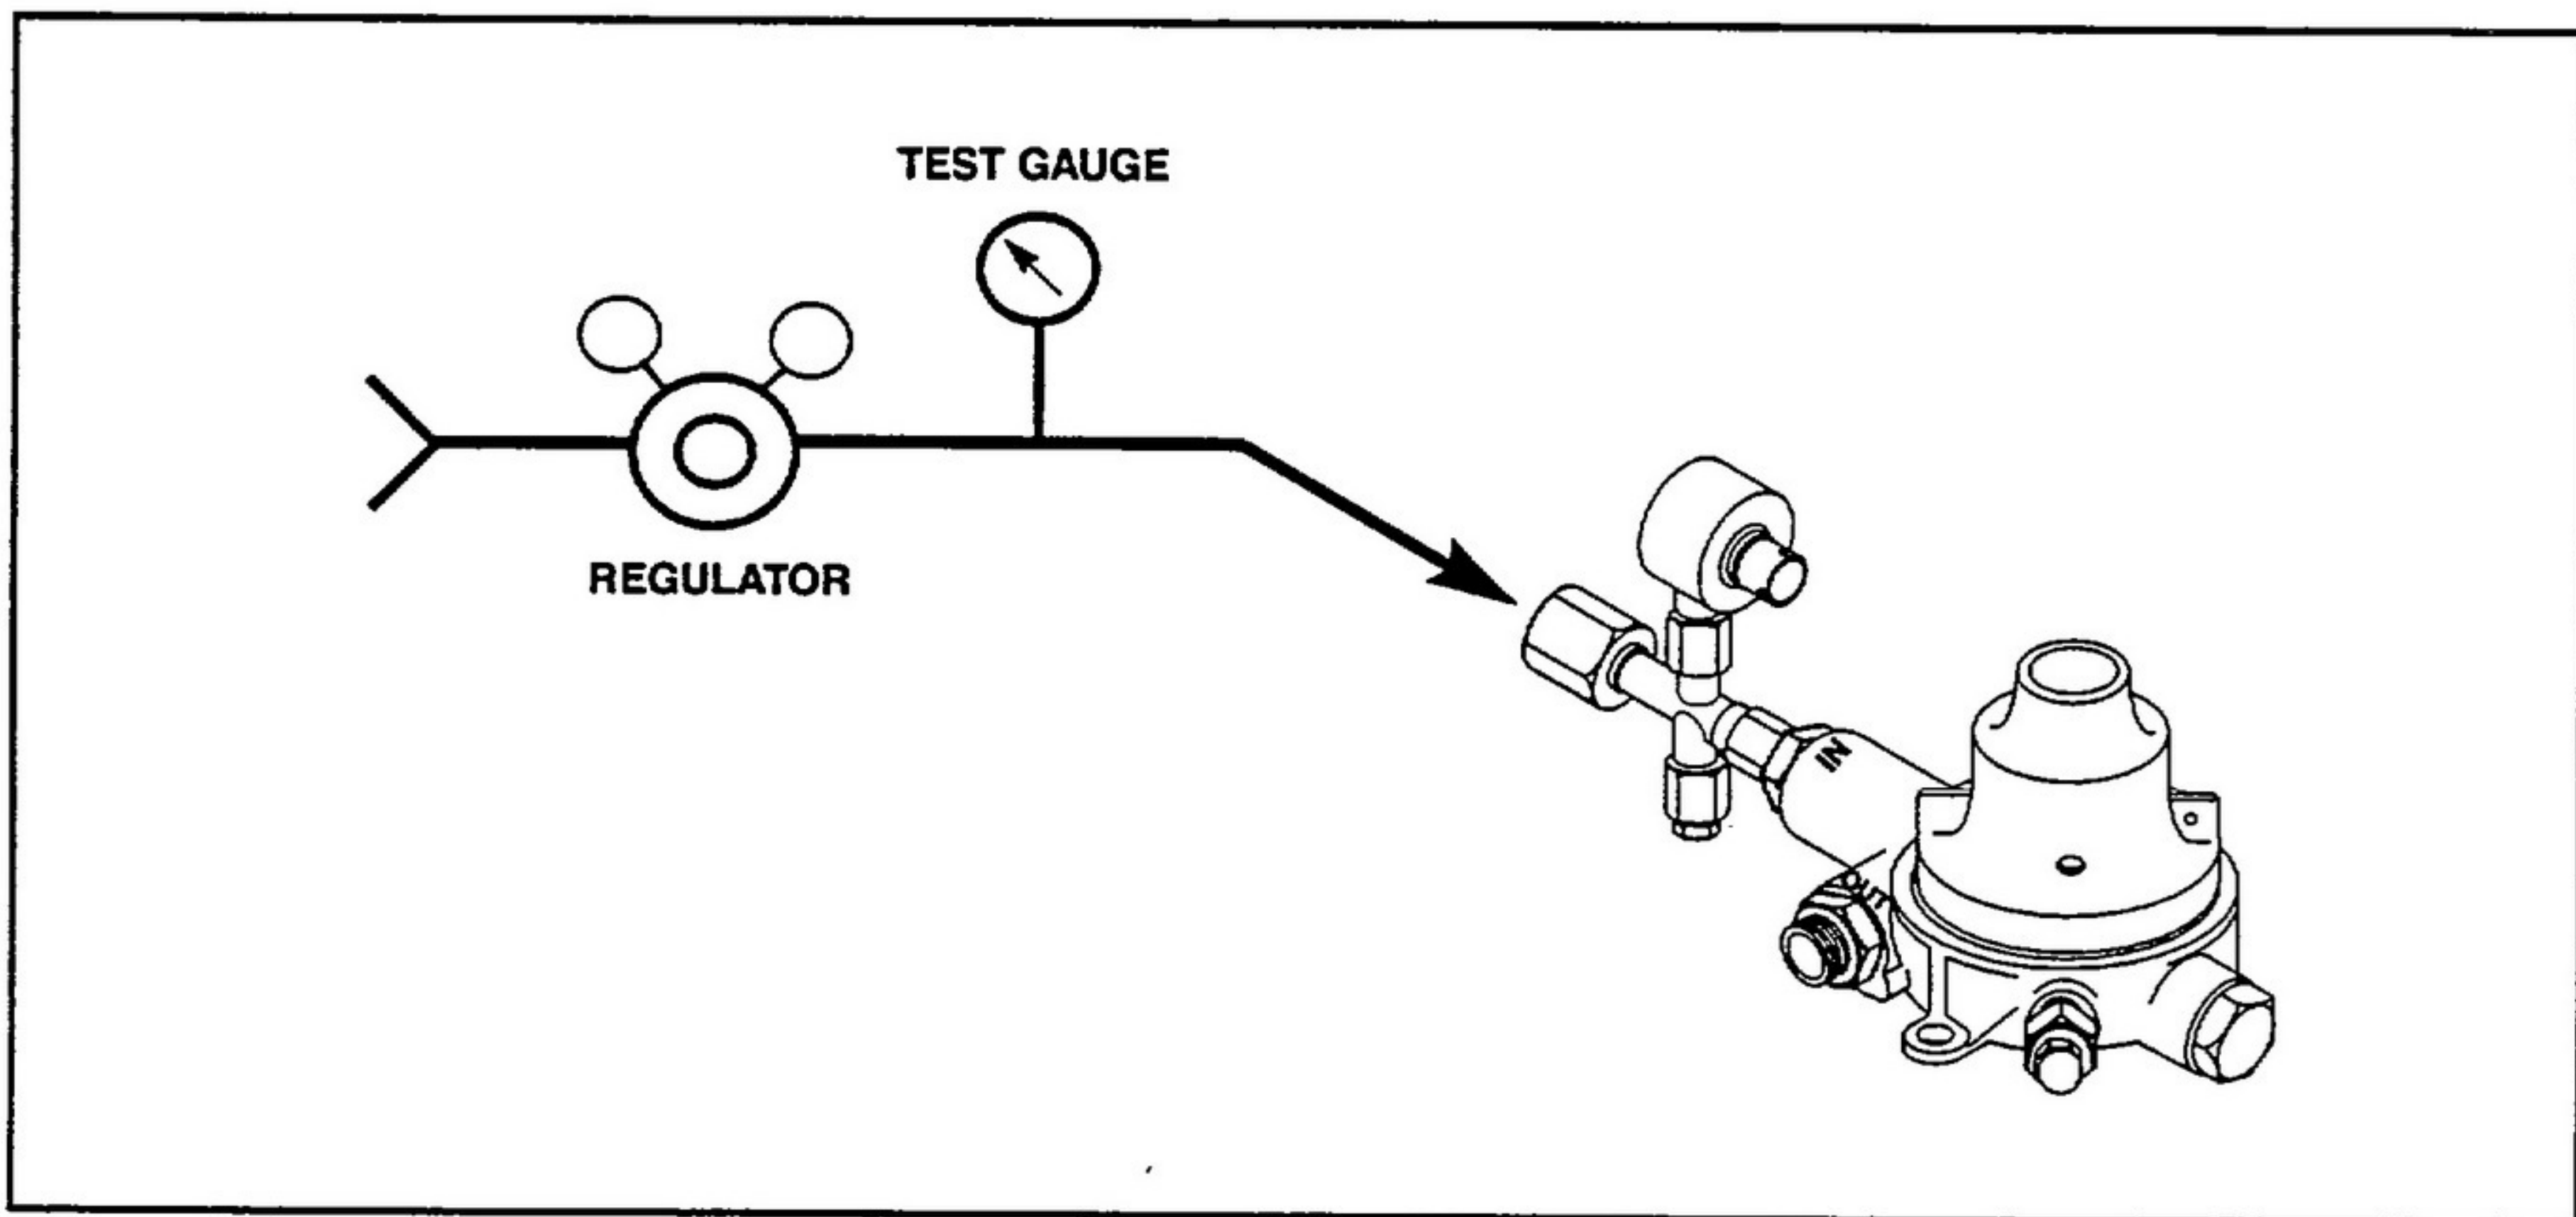

Figure 101 Typical Test Setup
- (3) Apply pressurized oxygen (1850 +0/-50 psi / 12.76 +0/ -0.34 MPa) to inlet port of coupling assembly (25, 25A or 30). See Figure 101.
- (4) Using leak test solution, check for leakage between transducer (5, 5A or 10) and coupling assembly (25, 25A or 30), between plug (15) and coupling assembly (25 or 25A) and between coupling assembly (25 or 30) and regulator assembly (65, 65A or 65B). There shall be no evidence of leakage during a period of one minute.
- (5) Discontinue flow of pressurized oxygen to inlet port of coupling assembly (25, 25A or 30). Remove plug(s) (15) from coupling assembly; remove moisture from exterior of assembly using clean, dry, oil-free air.
- (4) Connect high pressure oxygen supply to the inlet port of the coupling assembly as shown in Figure 101.
- (5) Apply pressures indicated in Table 104 or Table 105 as applicable; observe corresponding output voltage indicated on test meter. Output voltages shall be within voltage ranges indicated in the applicable Table.